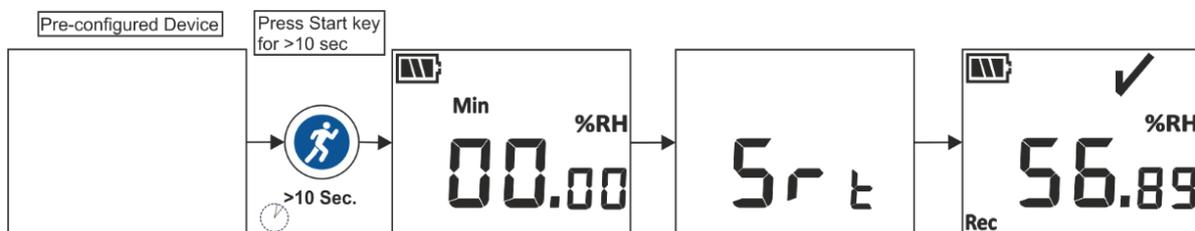

Figure 7 Start Batch Manually
2. User can manually start the device after batch configuration, if required by pressing “**Start**” key for about 10 seconds as shown in figure 7.